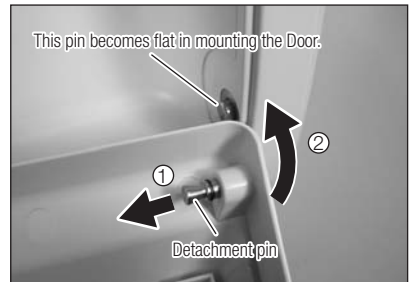

Abb. 18
- 2) With pulling the Detachment pin on right, mount the Door to fit position with the pin on the right side of the chamber until it locks with click sound. (Fig. 18)